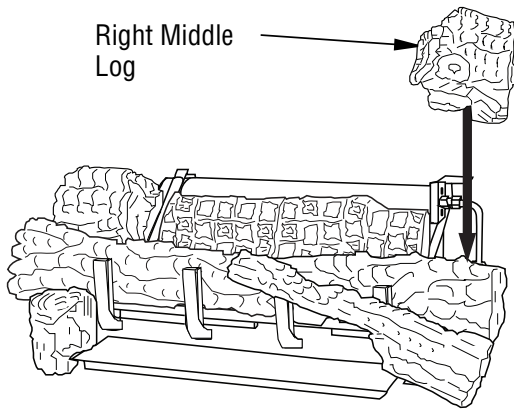

Figure 43 - Installing Right Middle Log
7. The right middle log (18" D-067, 24" & 30" D-041) has a groove on the bottom to sit on the chassis and has to sit on the tab on the back of the right front. The right middle log should have a recess area that fits around the ramp log as shown in **Figure 43**.